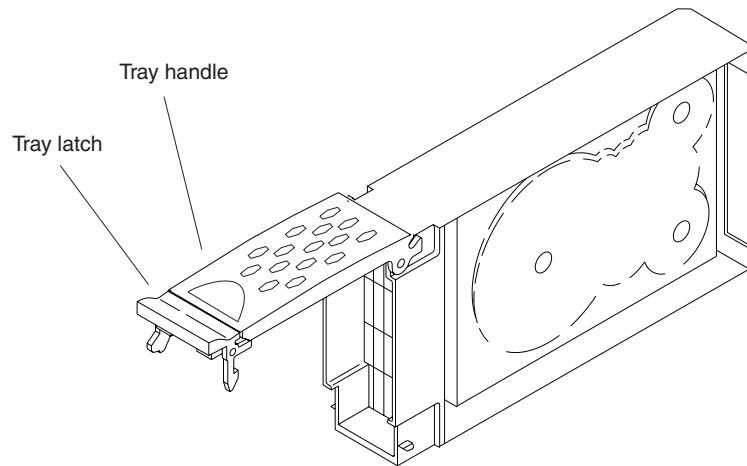

Figure 39. Drive CRU handle
- b. Pull the handle on the tray out so that it is in the open position, as shown in Figure 39.
- a. Release the latch on the drive CRU by pinching together the blue line on the tray latch and the finger hole on the tray handle, as shown by the arrow in Figure 39.